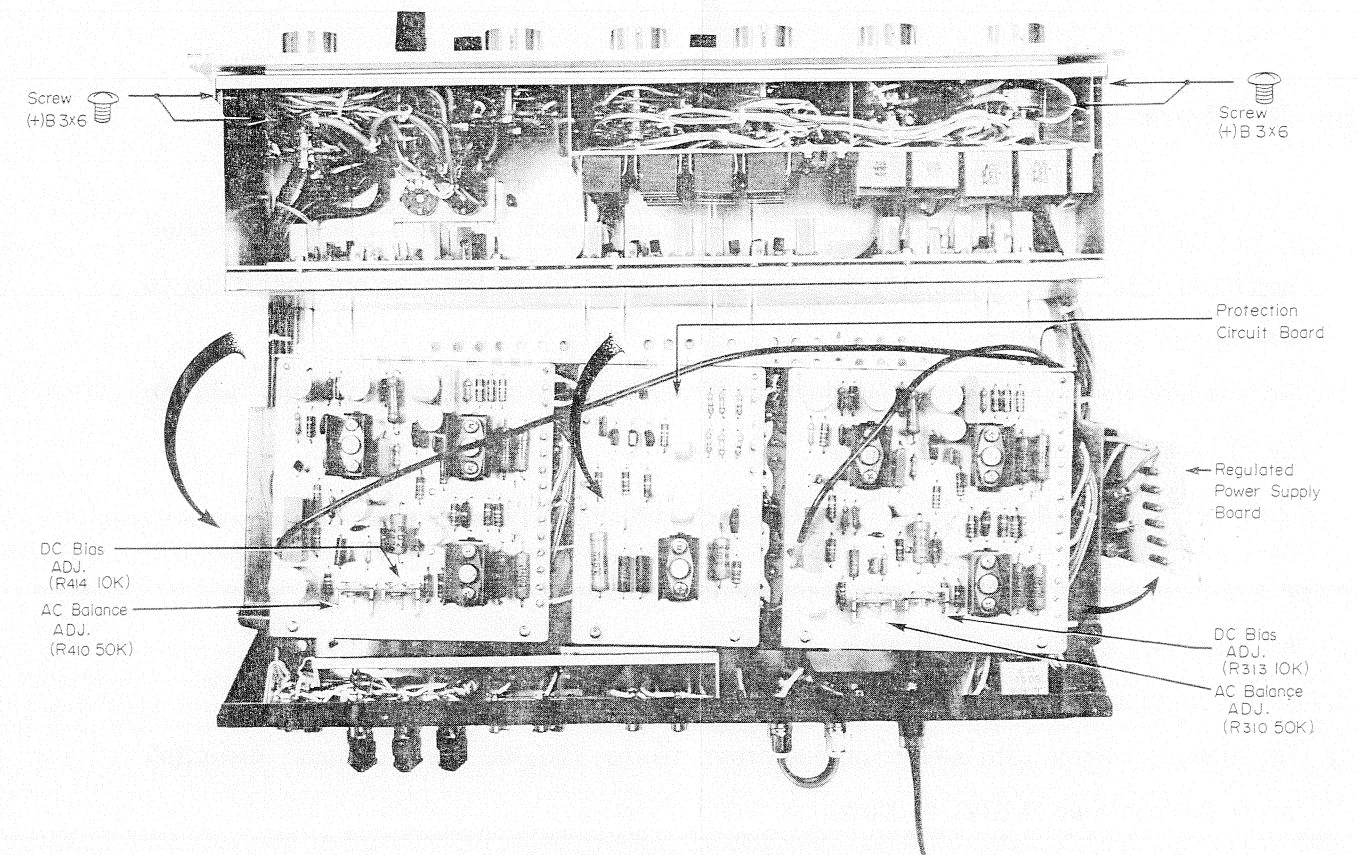

Fig. 1-3
Paying attention to the harnesses of wire around regulated power supply board, turn the heat sink toward you to make the circuit boards up then place it down. See Fig. 1-3.
- (b) Remove the four screws (+RF 3×6) from both side of the chassis as shown in Fig. 1-3 and control panel will now come free.